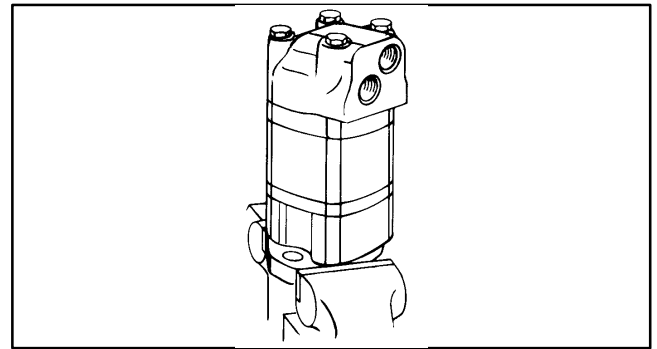

Figure 69
23. Clamp housing in vise, see Fig. 69.